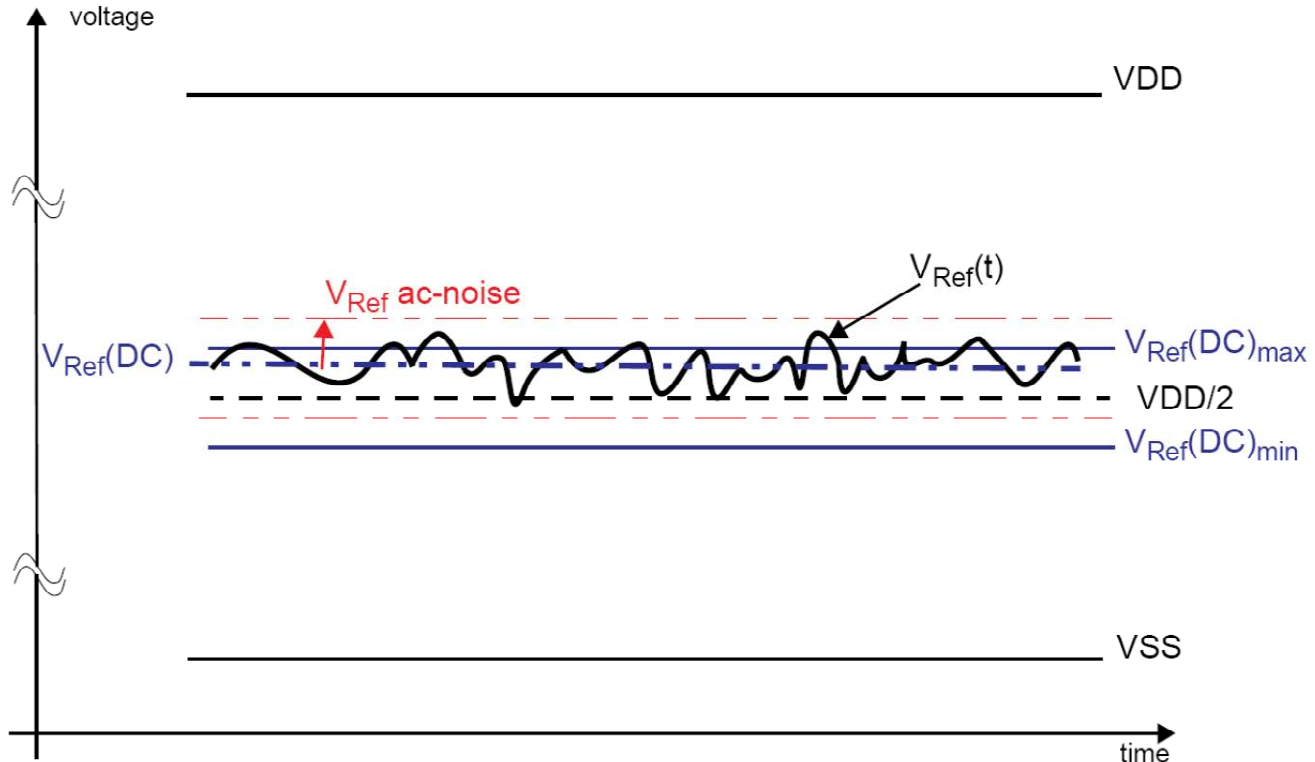

Figure 7.1 — Illustration of VRef(DC) tolerance and VRef ac-noise limits
The dc-tolerance limits and ac-noise limits for the reference voltages VRefCA and VRefDQ are illustrated in Figure 7.1. It shows a valid reference voltage VRef(t) as a function of time. (VRef stands for VRefCA and VRefDQ likewise). VDD stands for VDDCA for VRefCA and VDDQ for VRefDQ. VRef(DC) is the linear average of VRef(t) over a very long period of time (e.g. 1 sec) and is specified as a fraction of the linear average of VDDQ or VDD2 also over a very long period of time (e.g. 1 sec). This average has to meet the min/max requirements in Table 24. Furthermore VRef(t) may temporarily deviate from VRef(DC) by no more than $\pm 1\%$ VDD. Vref(t) cannot track noise on VDDQ or VDDCA if this would send Vref outside these specifications
The voltage levels for setup and hold time measurements VIH(AC), VIH(DC), VIL(AC) and VIL(DC) are dependent on VRef. “VRef “ shall be understood as VRef(DC), as defined in Figure 7.1.